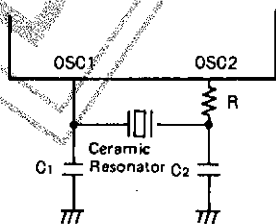

Fig. 2 Ceramic Resonator Oscillation Circuit
- Note 1:** When oscillated internally under the oscillating conditions in Fig. 2, up to the oscillation amplitude generated is allowable.